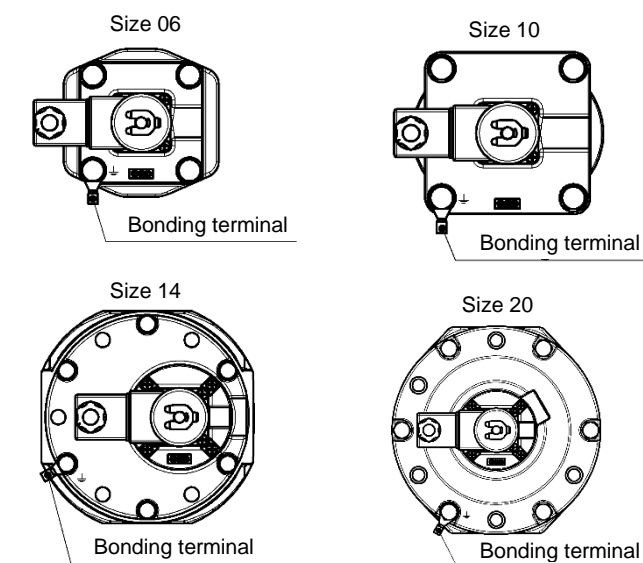

Fig.1
- An external bonding facility is mandatory for this product. A ring terminal is provided (included in product packaging) for this purpose to be installed using the marked main valve bonnet hexagon bolt, see Fig.6. Locations shown in Fig.1.